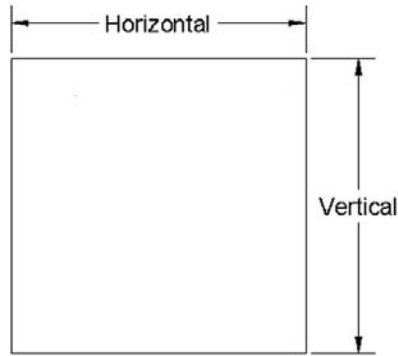

FIGURE 6.2
These are any dimensions that are strictly horizontal or vertical (Figure 6.2).
Step 1. Create a small to medium size rectangle or square, as seen in Figure 6.2, and begin the Linear Dimension command via any of the previous methods.